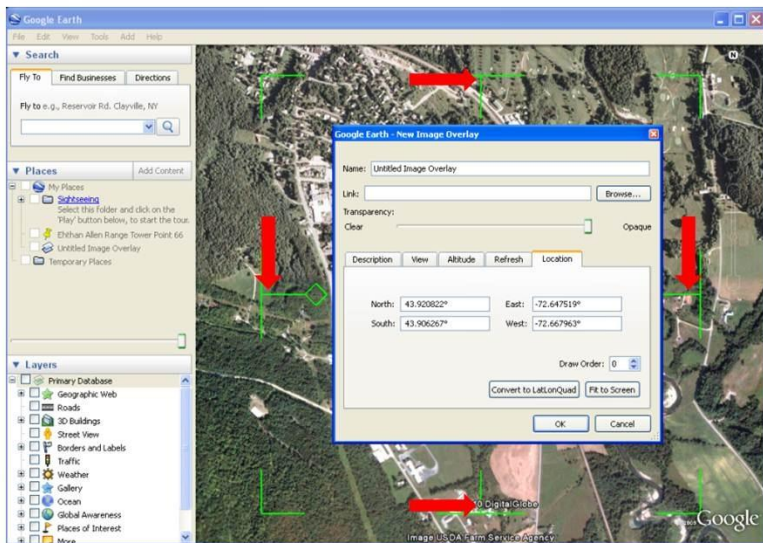

Figure 38: Image Overlay Resize
4. Resize the New Image Overlay dialog box so that the **green image overlay outline** of the Overlay Tool can be seen; you will only need to do this once (see Figure 38).